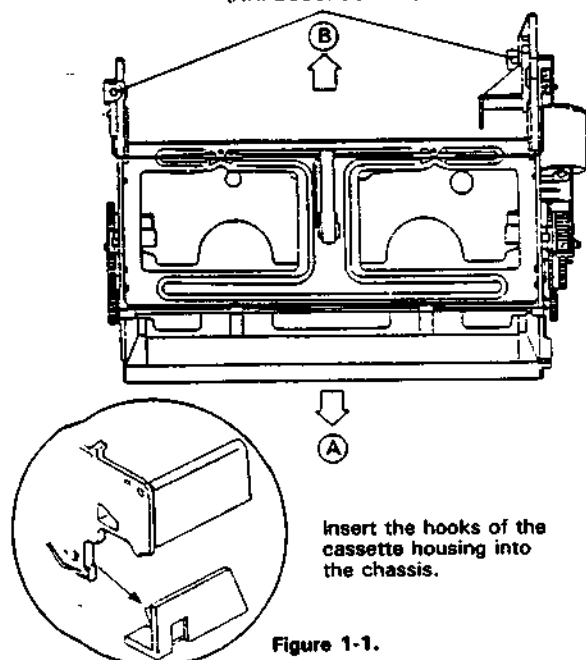

Figure 1-1.
4. Move the cassette housing control assembly (Fig. 1-1) in the direction of arrow = (B), and pull it out straight upward.